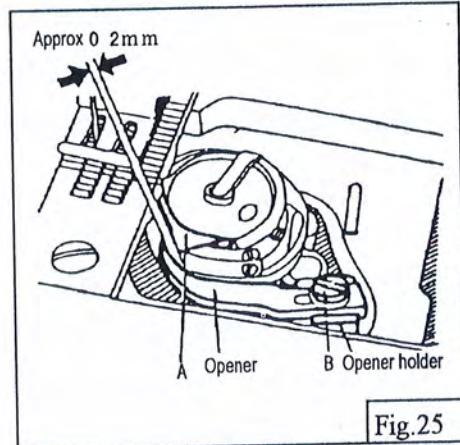

Fig.25
18) Relationship between hook motion and opener motion (Fig.25)